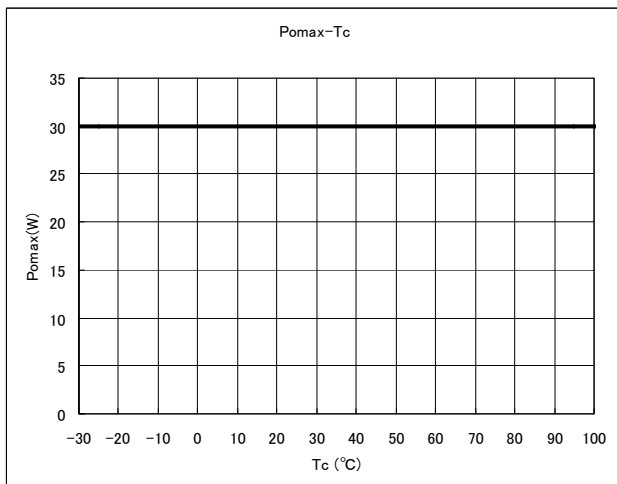
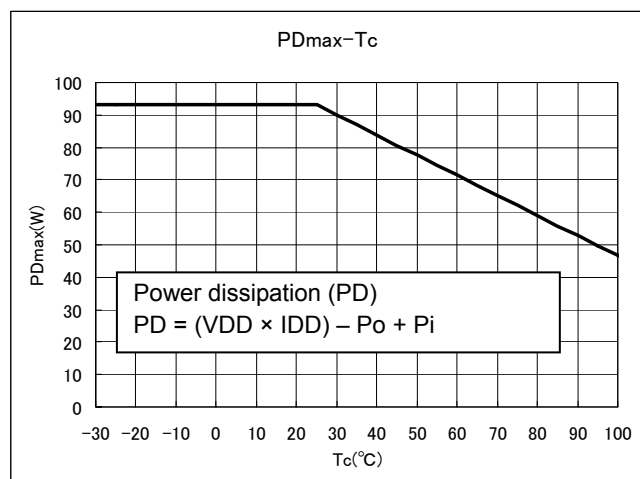

Figure 1 P_{omax}-T_c
Figure 2 P_{Dmax}-T_c
Note 2: The output power rating satisfies the range shown in Figures 1 and 2 according to the operating case temperature. Ensure that the device should be operated within the specified operating range. The figures below indicate the output power obtained 2 seconds after P_o is generated.
*When the device is used at T_c = 100°C, the output power rating is 30 W as shown in Figure 1. When the power dissipation at T_c = 100°C exceeds the rating shown in Figure 2, the output derating is required to limit the dissipation within the specified range.
Note 5: The output power is intended to follow the rating provided in Figure 1 in Note 2.